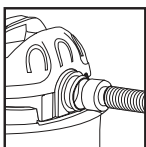

FIGURE 25
46. Your vacuum can be used as a powerful blower. To use your unit as a blower, clear hose of any obstruction. Insert machine hose end into blower port on rear of unit. **FIGURE 25.** Twist slightly to tighten the connection. Caution should be used when using as a blower due to the powerful force of air when using certain attachments.